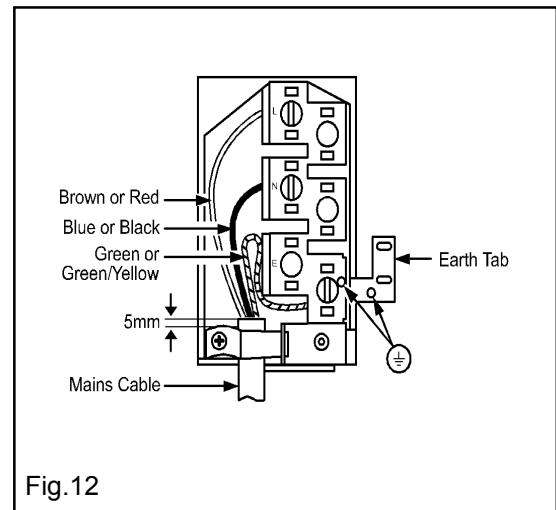

Fig.12
- Make connection as shown in Fig. 12 by proceeding as follows:-
- Clamp the mains cable securely ensuring 5mm of the outer insulation is inside the terminal block and that the wires are not taught but not so slack as to cause any fouling. See Fig. 12.